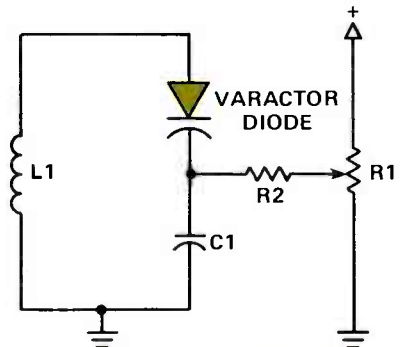
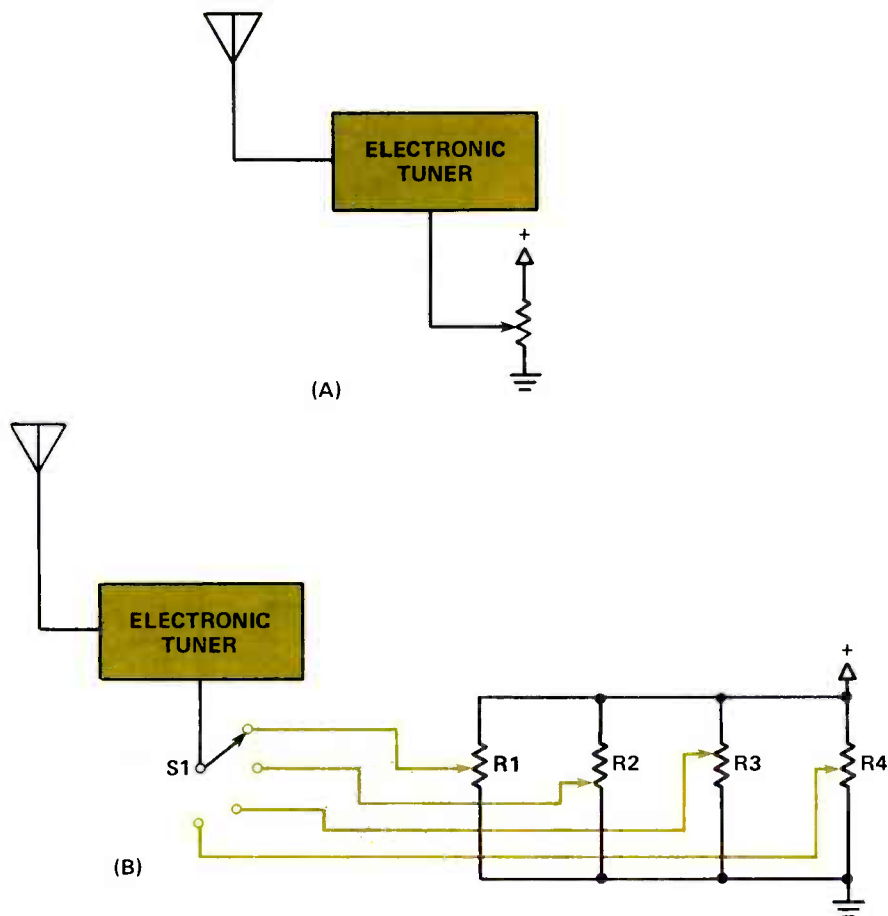

FIGURE 5. BASIC ELECTRONICALLY TUNED TANK CIRCUIT.
FIGURE 6. BASIC ELECTRONIC TUNING SYSTEMS.
Figure 5 shows how the varactor diode is used in a tank circuit. Capacitor C1, in conjunction with the capacitance of the varactor diode, resonates with L1 at some frequency. The reverse bias on the varactor is determined by the setting of R1. Moving the arm of R1 upward picks off a more positive voltage, thereby increasing the reverse bias on the varactor. This causes its capacitance to decrease and the resonant frequency of the tank circuit to go up. Moving the arm of R1 downward decreases reverse bias, increases capacitance, and lowers the resonant frequency of the tank.
If all the tuned circuits in the tuner of Fig.1 were of the type shown in Fig.5, we would have an electronic tuner like the one shown in Fig.6(A), channel switching being accomplished by adjusting a single potentiometer.
The arrangement shown in Fig.6(B) partially overcomes this disadvantage. Here, up to four different channel selection voltages can be preset with R1 through R4. By rotating the selector switch, you can select, in turn, each of the four preset channels. Some manufacturers actually use this kind of tuning
Although the system illustrated in Fig.6(B) is in use, it really doesn't solve the basic problem of mechanical tuners. The switch contacts are just as likely to eventually cause trouble here as they are in the old tuners.